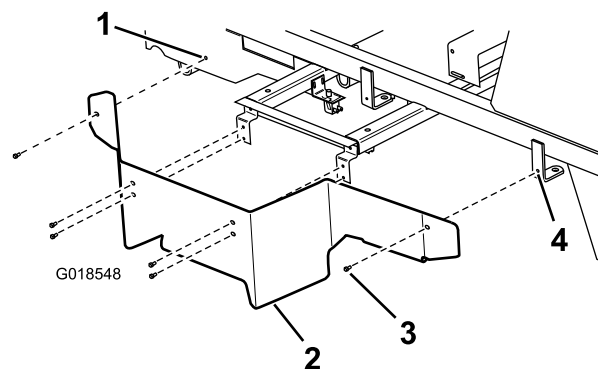

Figure 4
3. Self-tapping screw (6)
6. Secure the left-belt guard to the left-hand side of the machine using self-tapping screws in the existing holes in the machine as shown in Figure 4.
7. Drill a hole (3.4 mm diameter) in the left-hand side of the frame using the remaining hole in the left-belt guard as a template; refer to Figure 4.
8. Insert a self-tapping screw in the hole and finish securing the left-belt guard to the frame; refer to Figure 4.
4. Place the left-belt guard onto the left-hand side of the machine (where it is to be installed), line up the holes, and mark the location on the support bracket where you need to drill a hole; refer to Figure 4.